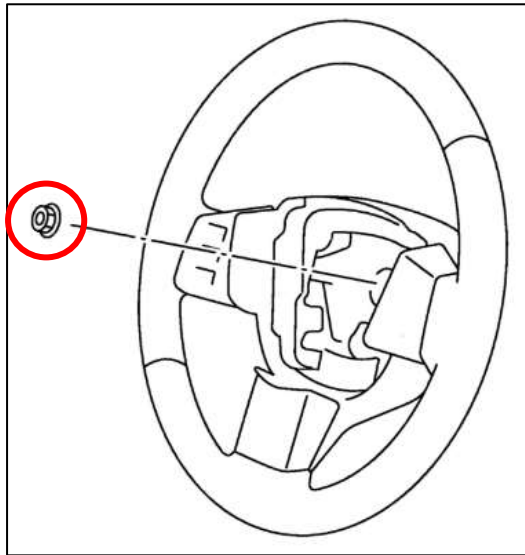

Figure 5
- e. Using an impact gun, remove the nut in the center of the Steering Wheel. *Figure 5.*